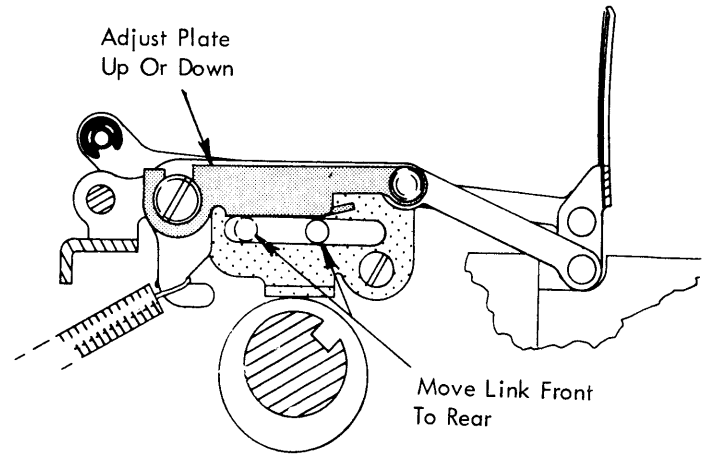

FIGURE 187. Ribbon Lift Guide Plate Adjustment
5. Ribbon Lift Guide Plate - Adjust the plate as low as possible without causing a change in the ribbon lift guide height as the ribbon lift lever is moved from the low lift to the high lift position (Fig. 187). The ribbon lift cam should be at the low point when the check is made.